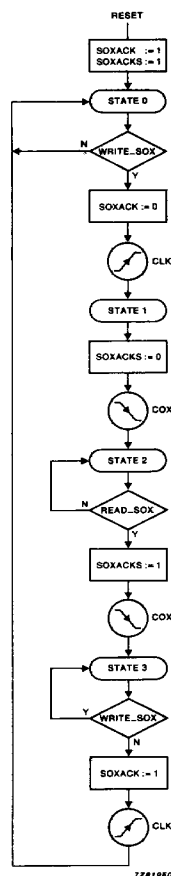

Fig. 2.7.6-1 Serial data output synchronization procedure flow chart.
- the serial data output synchronization procedure (Fig. 2.7.6-1).